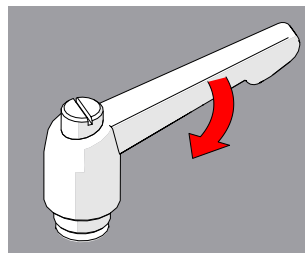

Fig. 23 - Tighten handle
3. Release the lever and utilize the new tightening position (*Fig. 23*).